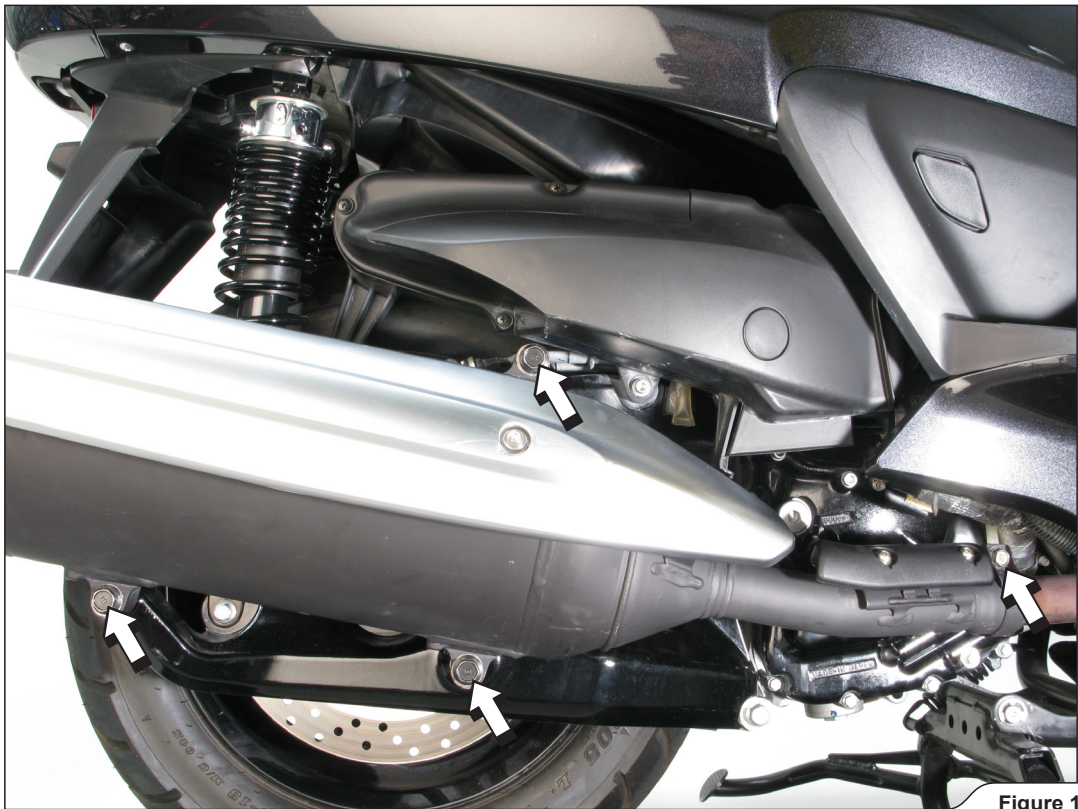

Figure 1
2. Loosen the marked link pipe clamp, unscrew the marked muffler bracket bolts and carefully remove the stock muffler off the scooter (Figure 1).